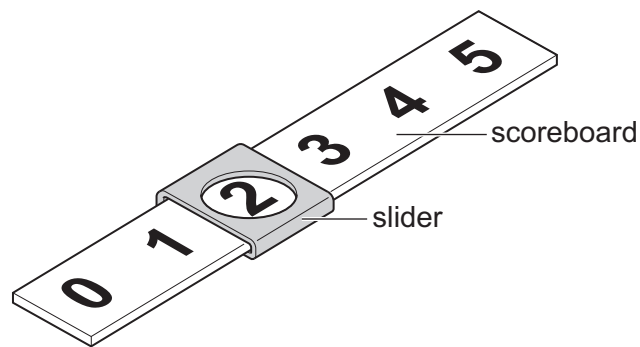

Fig. 13.5
- (f) Fig. 13.5 shows part of a scoreboard that could be attached to the sides of the table football game. The slider and scoreboard are made from 3 mm thick acrylic.